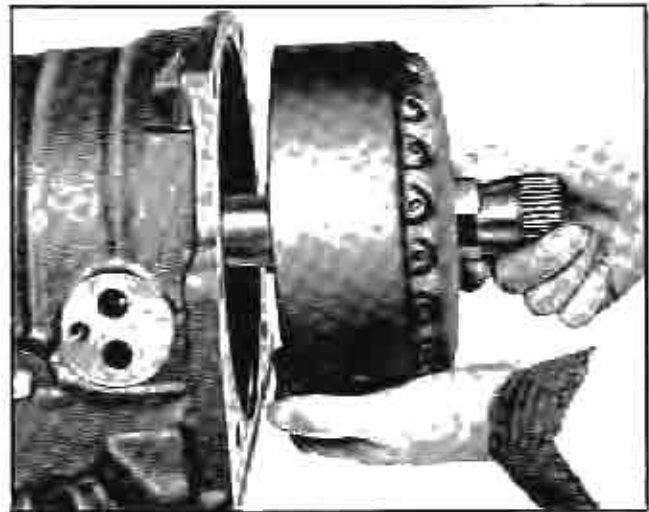

Fig. 50 Removing Front Unit Coupling
21. Remove front unit coupling assembly from case (Fig. 50).